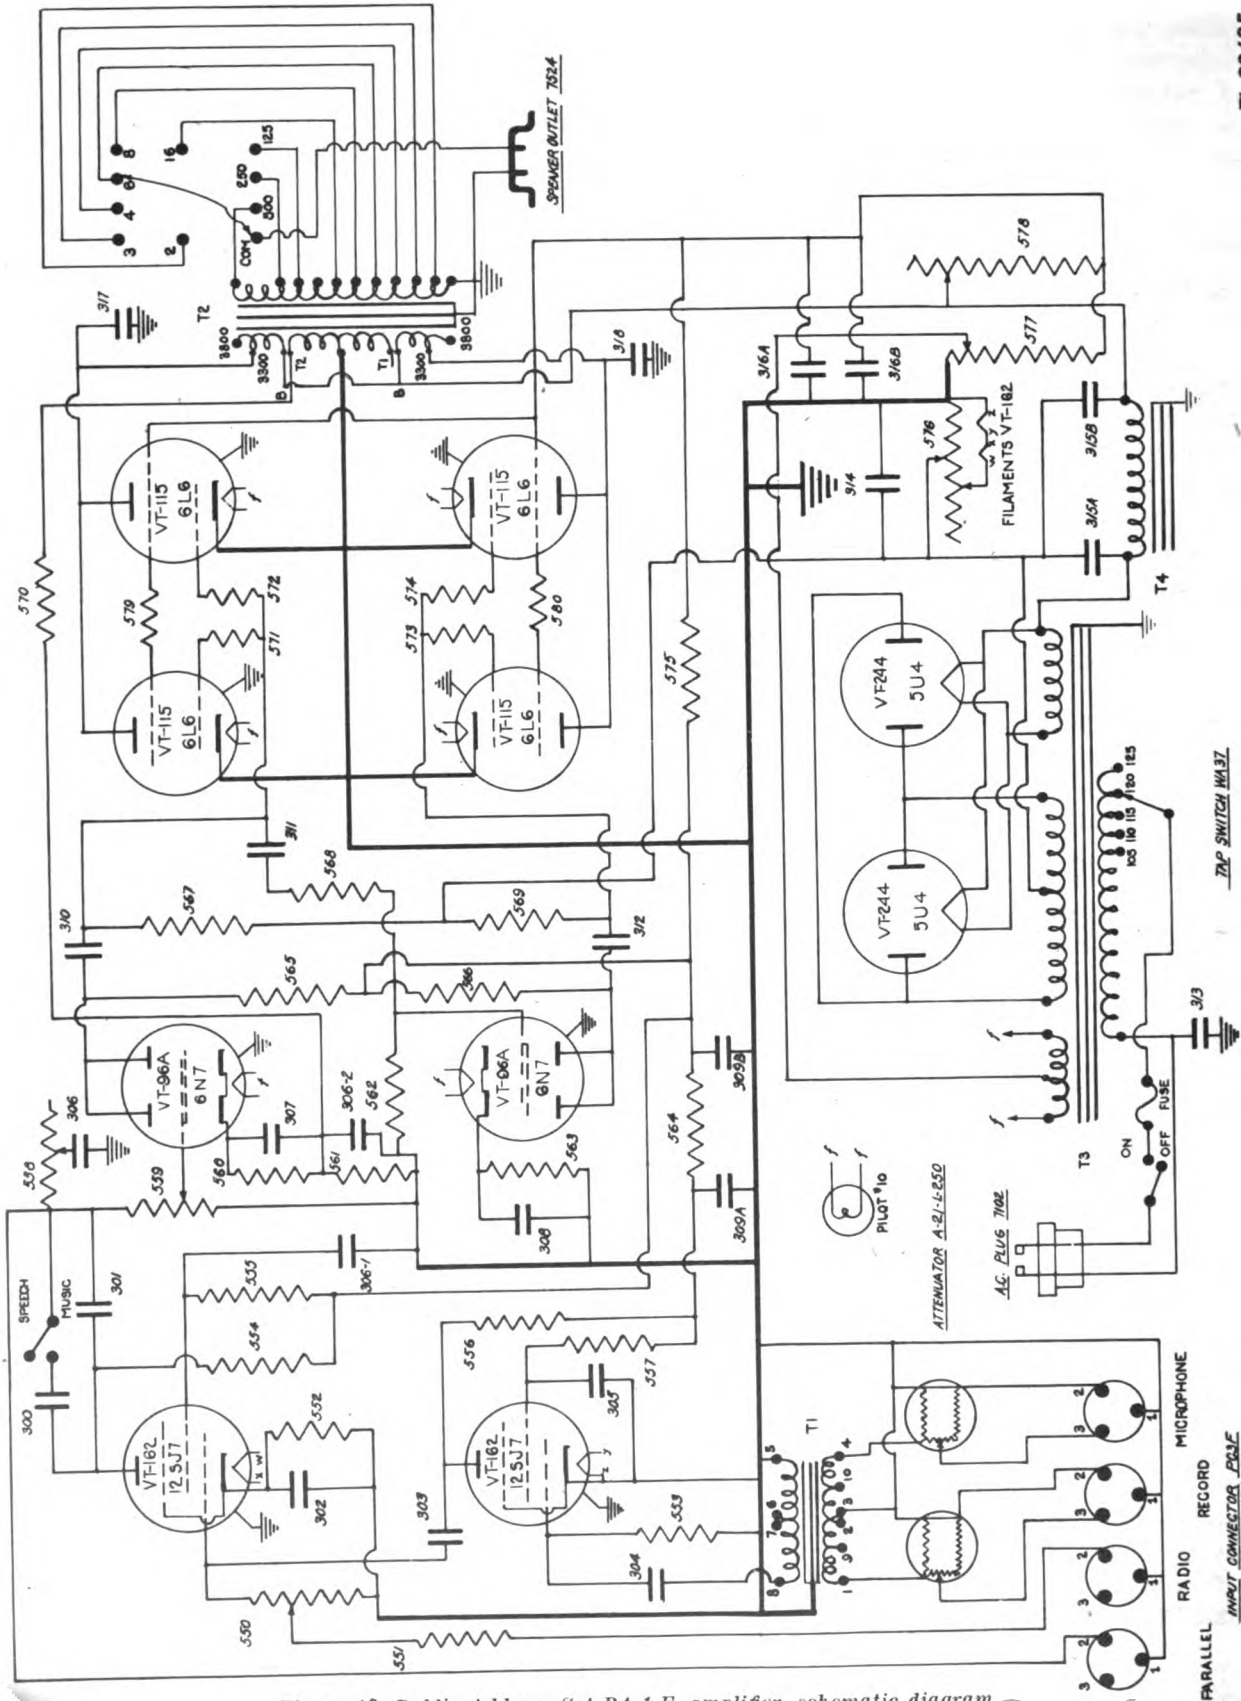

Figure 12. Public Address Set PA-1-F, amplifier, schematic diagram.
**20. AMPLIFIER (figs. 12, 13, and 14).**